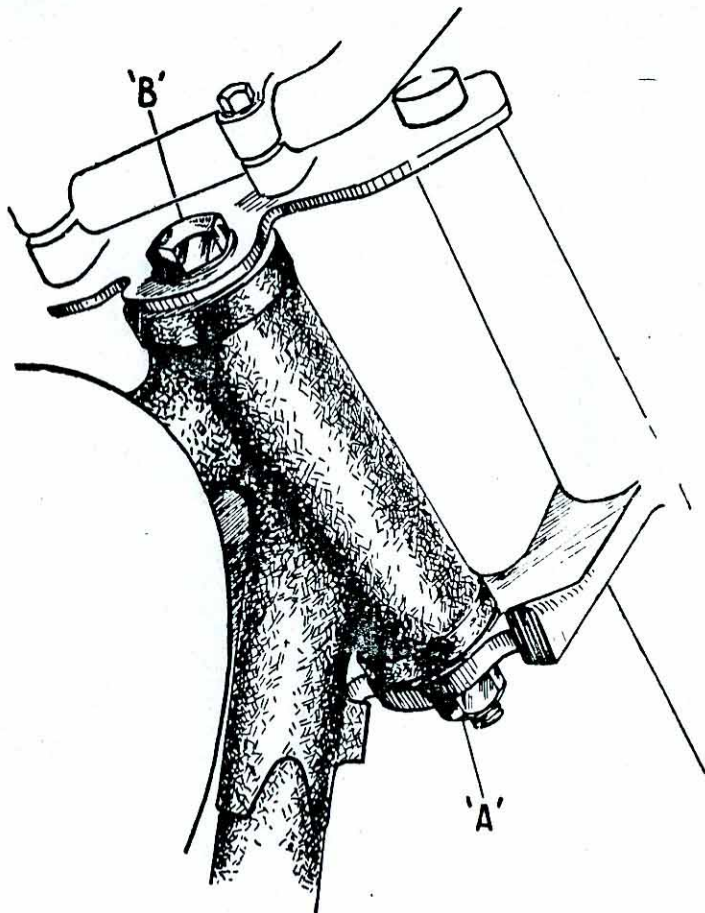

FIG. 4—STEERING HEAD ADJUSTMENT
4), at the base of the steering head assembly, and rotate the hexagon head of the stem bolt (B in Fig. 4), in a clockwise direction until all perceptible play has disappeared but the forks are still quite free throughout their complete movement from lock to lock. Re-tighten the locknut and check for freedom as it is possible that tightening the nut may slightly reduce the clearance. Finally re-tighten the pinch bolts.